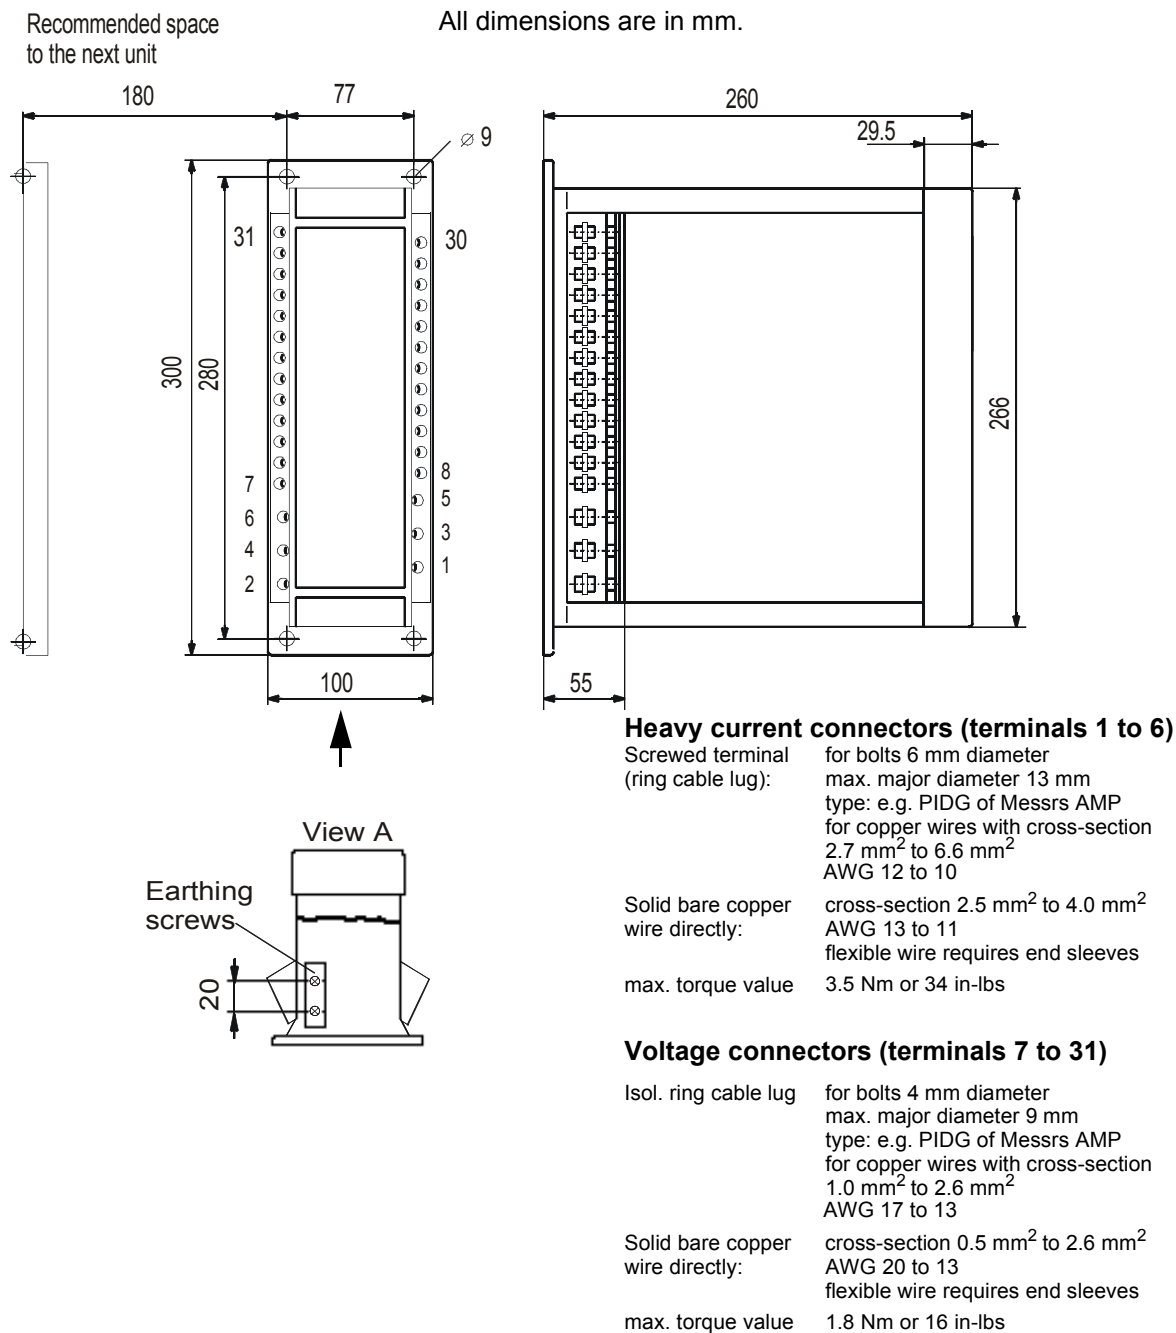

Figure 2-1 Dimensional drawing of 7XP20 for panel surface mounting with terminals at both sides
For dimensions, see Figure 2-1.
Figures 2-1 and 2-2 show the dimensions of the available housing types.
- ☐ Insert the device into the panel cutout or rack and fasten with four screws. Refer to Figure 2-1 in Section 2.1.1 for dimensions.